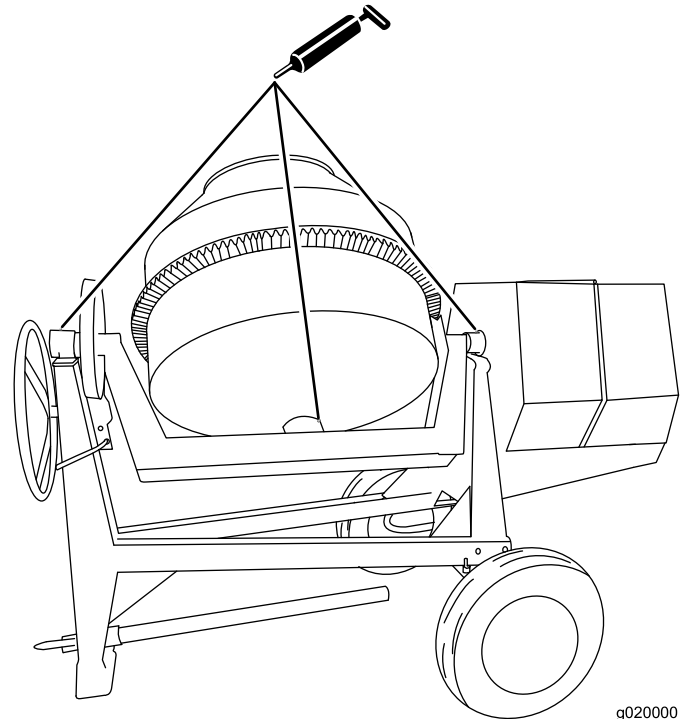

Figure 31
1. Clean around each grease fitting with a rag, and lift the plastic cap off the grease fitting (Figure 31).
2. Use a grease gun to lubricate the grease fittings of both trunnions and the drum spindle with general-purpose lithium grease (Figure 31).